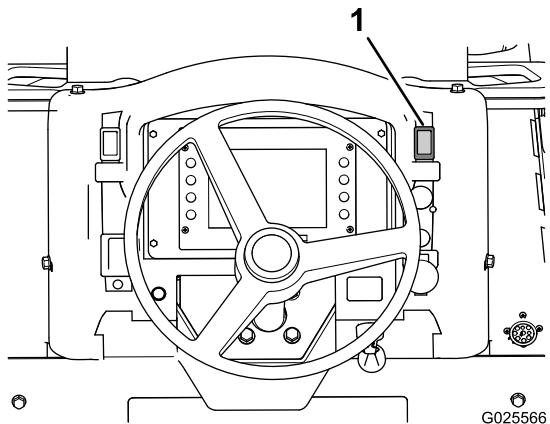

Figure 39
- Toggle the parking-brake switch (Figure 39) up to apply the parking brake.